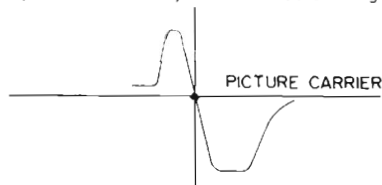

Figure 3 (AFT Alignment Waveform)
- 3) Adjust L102 so that it may be the same as shown in figure 3.